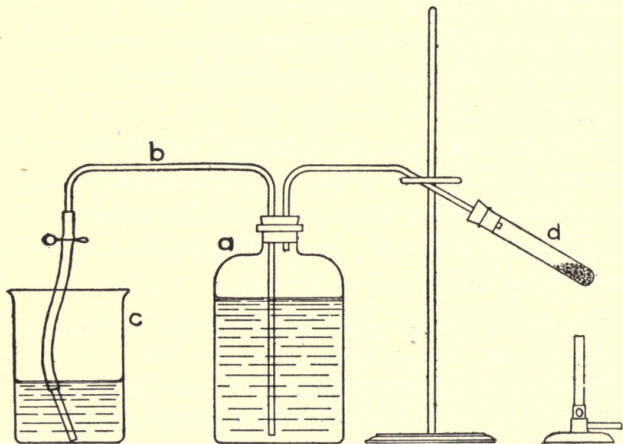

FIG. 7.
24. Arrange the apparatus shown in Fig. 7. The bottle should be of about 2 liters capacity; all stoppers should be of rubber. Completely fill the bottle *a* with water; insert the stopper carrying the two glass tubes